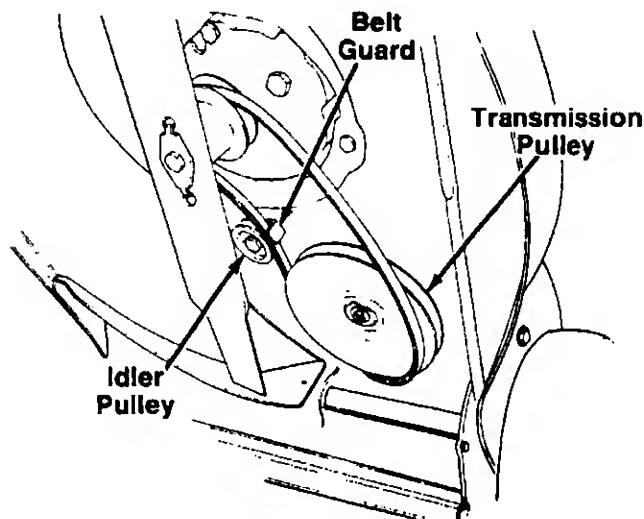

FIGURE 28.
5. Roll the belt off the transmission pulley. Remove the belt from between the idler pulley and belt guard. See figure 28.